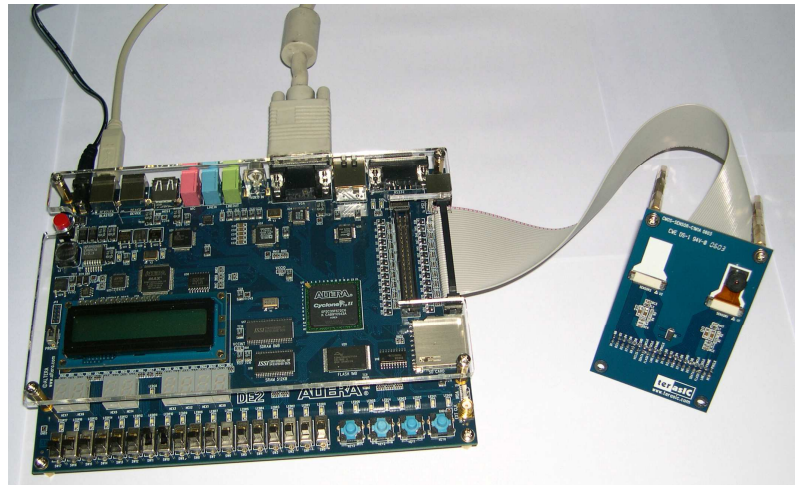
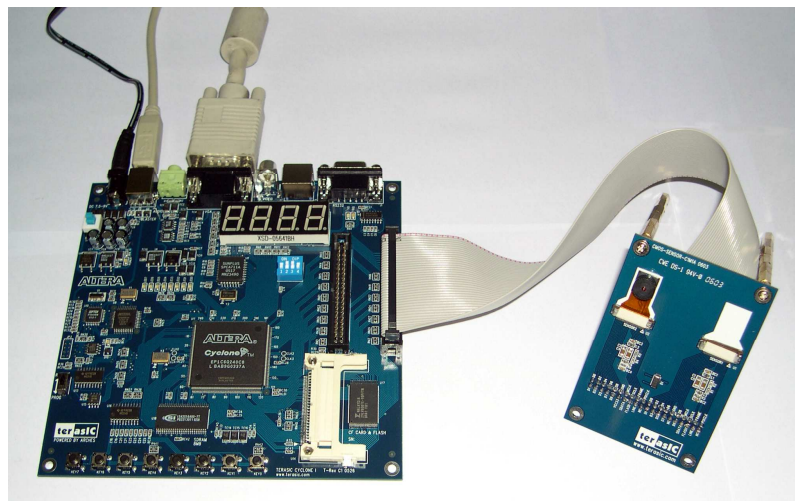

Figure 1.4 Connect the other end of IDE cable to the DE2/DE1 board's expansion port (**outermost port**).
Figure 1.5 Connect the other end of the IDE cable to the TREX C1's expansion port (**outermost**).
4. Connect the other end of the IDE cable to your DE2/DE1 or TREX C1 board as shown in Figure 1.4 and Figure 1.5, respectively.